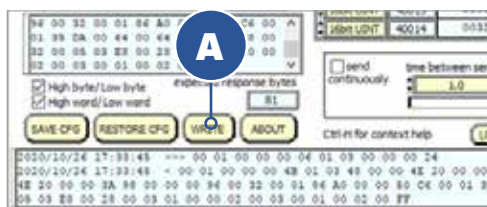

Figure 52.1.
- On the main screen click the Write button (A) near the bottom of the window as shown in Figure 52.1.